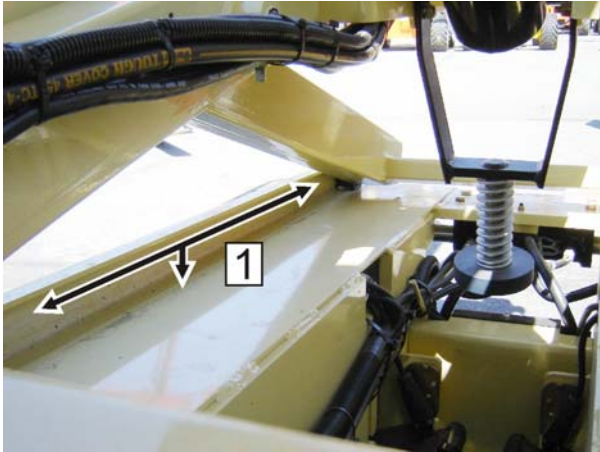

Figure 6-2. Lower Slide Pad Channel
2. Locate the Lower and Upper Slide Pads and remove all dirt and debris from the slide channel area (1, 2). Refer to Figure 6-2., Lower Slide Pad Channel.